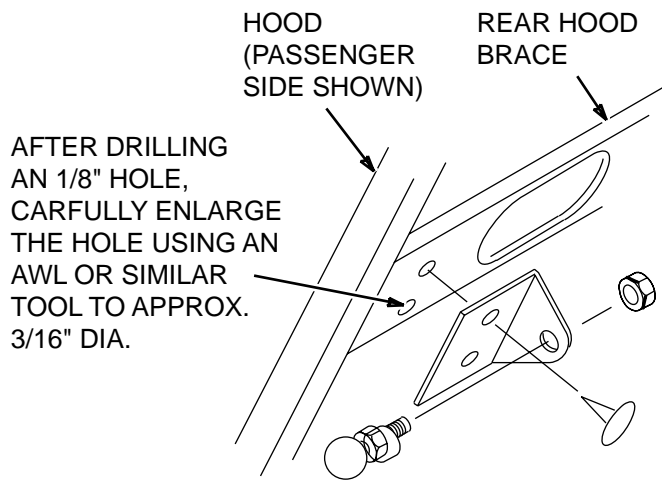

Figure 3
7. Position the provided drilling template on the rear hood cross brace (closest to the firewall) and center punch the mounting holes. See Figure 3.